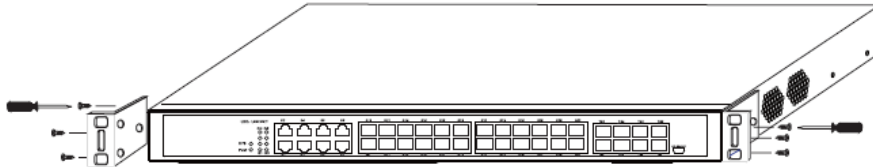

Figure 3-1 Fixing the machine box of the switch
The machine box of the switch is fixed on the cabinet through the brackets. When you fix the brackets, the front template of the switch faces forward. The detailed operations are shown in Figure 3-1.
**Caution:** The switch shown in figure 3-1 does not represent the material S3940F.